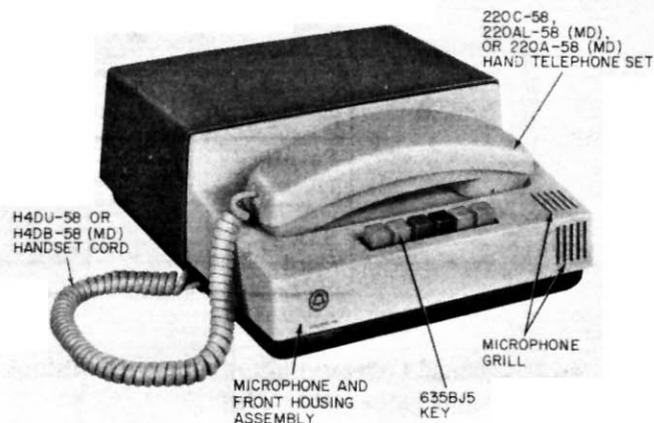

Fig. 1—Part of 50A1 Conference Set, Front View
2.01 The 50A1 conference set (Fig. 1) consists of a 73B control unit, a modified 220A-58 (MD), 220AL-58, or 220C-58 hand telephone set plus the other accessories listed in paragraph 2.04 under the Ordering Guide.